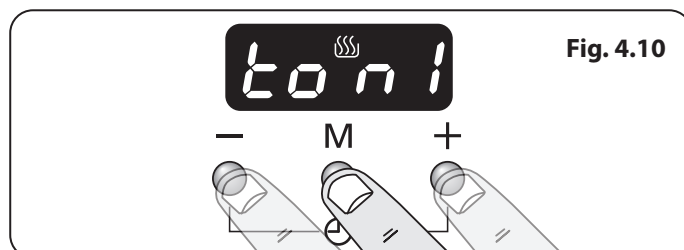

Fig. 4.10
1. Press the the [+] and [-] buttons simultaneously, then the mode [M] button. The display will show 'ton1,2 or 3' (**Fig. 4.10**).